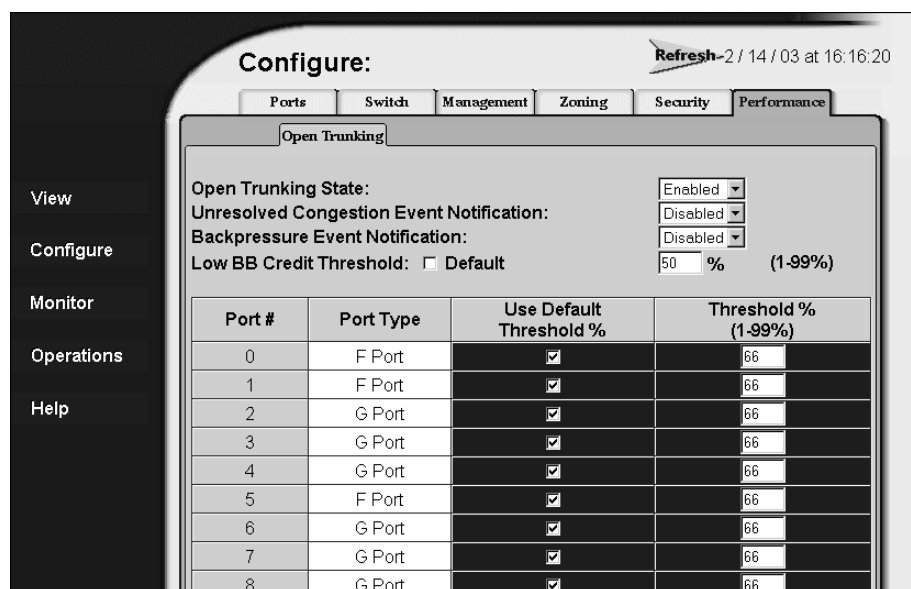

Figure 16: Configuring Open Trunking
2. Choose the **Performance** tab and the **Open Trunking** tab. The **Open Trunking** tab view displays (Figure 16).